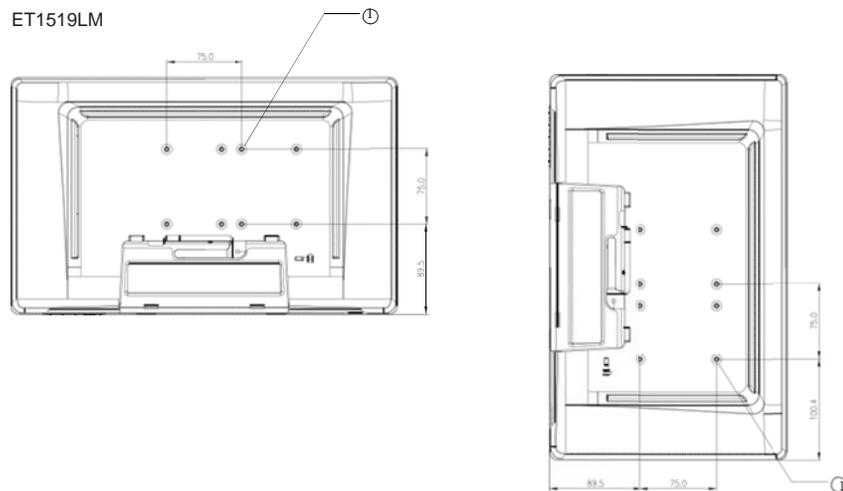

Figure 2-1 : VESA mounting interface location, pedestal removed
- 1 If the display is already connected to a pedestal, remove the four screws that connect the pedestal to the display (refer to *Figure 2-1*, item ①). Separate the pedestal from the display.